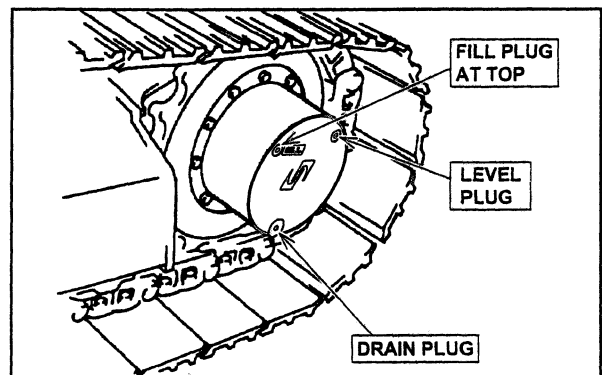

FIGURE 9 3
- 1 Place chock blocks at front and rear of each track to prevent machine from moving when brakes are released. See Figure 9 1